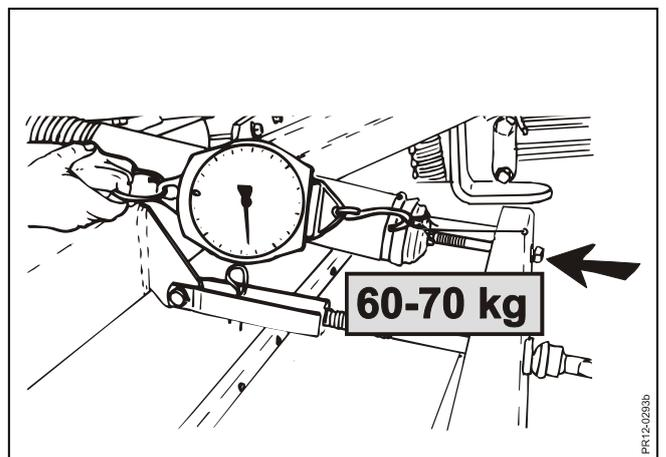

Fig. 3-13
- Fig. 3-13**      The counter nut **F** is loosened and the adjustment is made by means of **G**. Start with **approx. 60-70 kg** in each side.